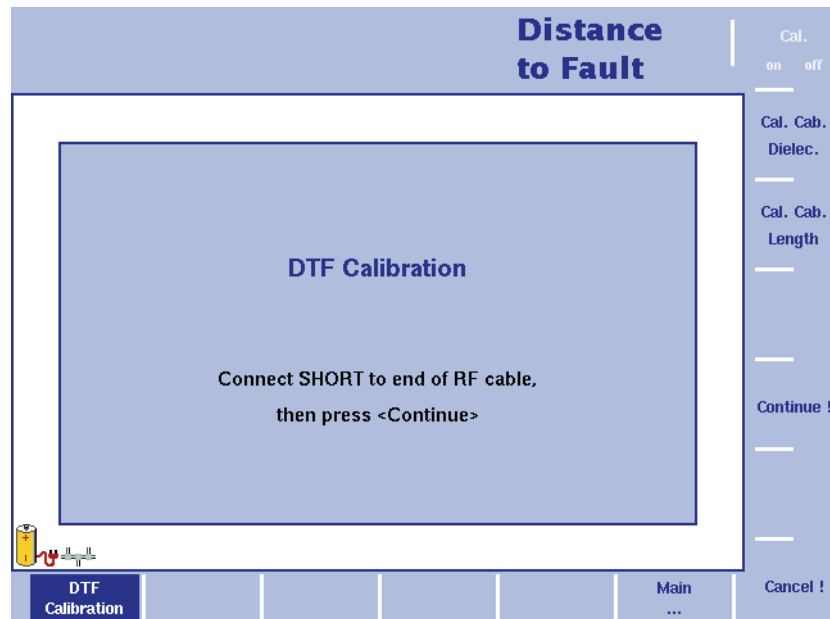

Figure 48 Distance to fault Calibration menu
- 5 The 9103 will guide you through the calibration process by onscreen messages as shown in Figure 48. When prompted as shown connect the calibration set to the test port extension cable and press **Continue**. You can abort the calibration process by pressing the **Cancel !** softkey.